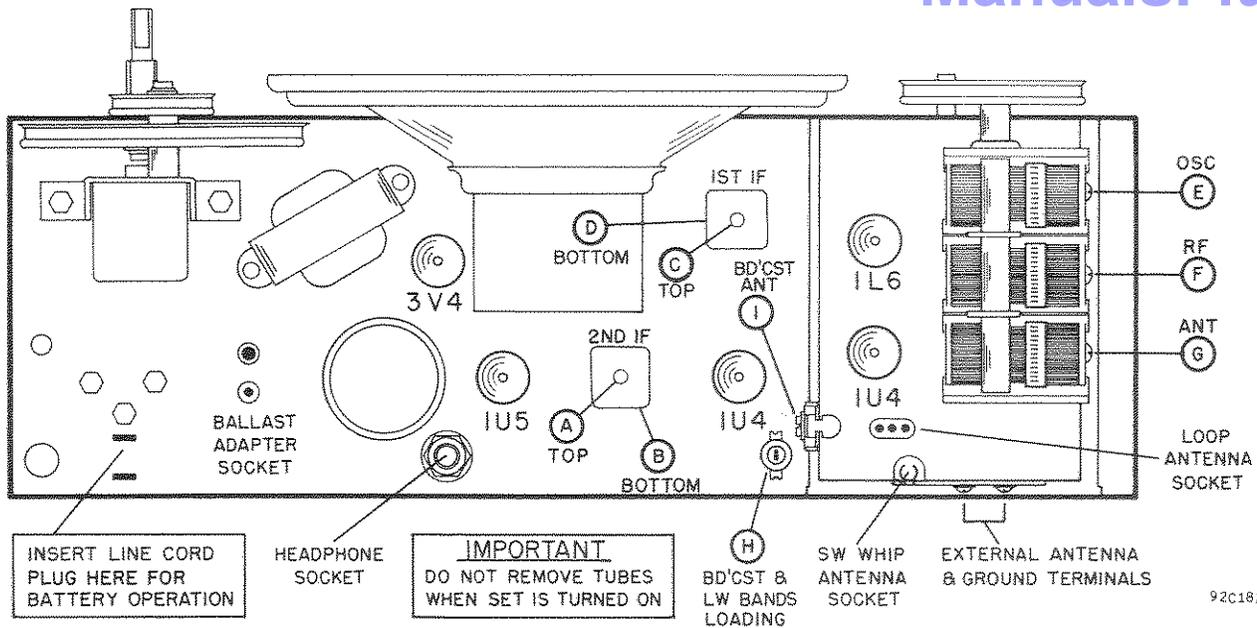

Fig. 3. Top View of Chassis Showing Location of Alignment Adjustments and Tubes
- Refer to Figs. 3 and 6 for location of alignment adjustments. The alignment adjustments are also shown on the schematic diagram.